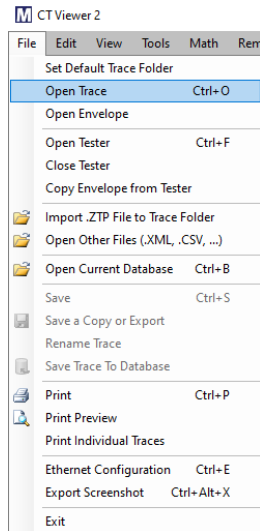

Figure 5.8 The Open Trace (Hotkey: Ctrl-O) option can be found under the File menu.
1. Click on *File* then *Open Trace* (Hotkey: Ctrl-O). See Figure 5.8. *Open Trace* will always start in the folder selected using *Set Default Trace Folder*.